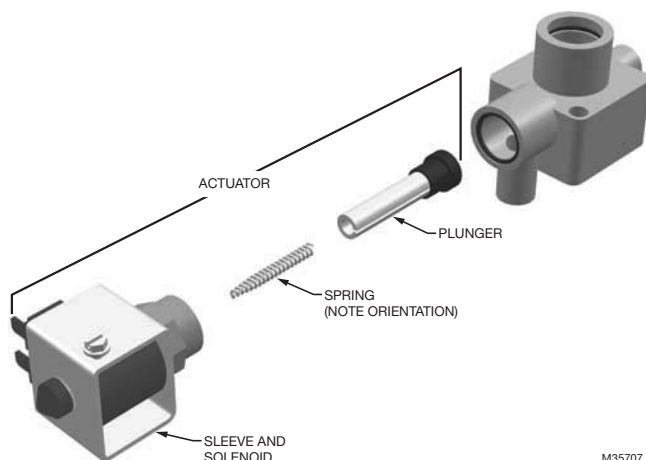

Fig. 25. Drain valve actuator assembly.
7. Reassemble actuator making sure tapered end of spring is oriented as shown in Fig. 25. Tighten brass nut 1/4 turn past hand tight.